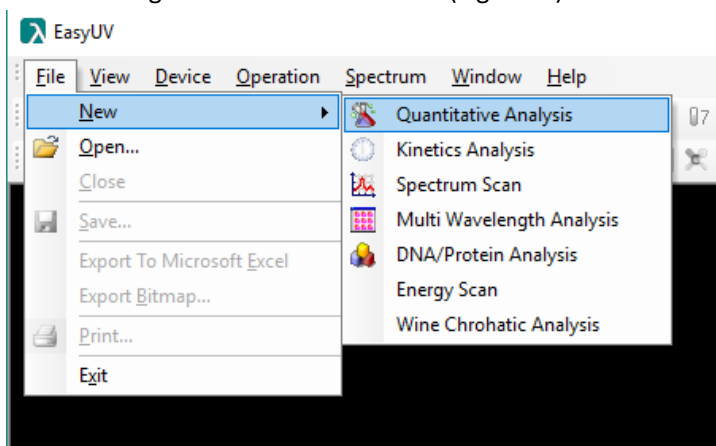

Fig. 3.2-1 Pull-down style menu
- Pull-down style Menu (Fig.3.2-1);